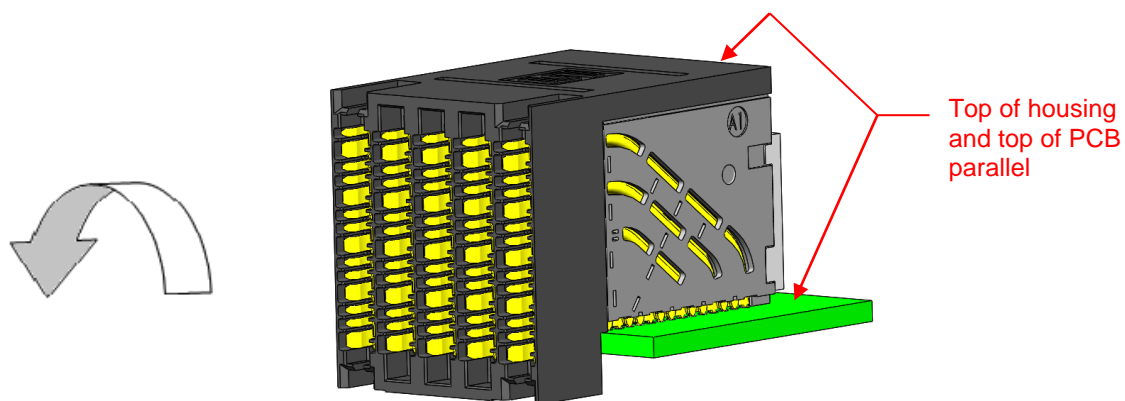

Figure 24: Connector Rotated Parallel to Top of PCB and EONs Aligned
- Once the end column EON tips have been inserted, rotate the connector towards the board to insert the rest of the EON tips into their corresponding vias. The top surface of the connector should be parallel with the top surface of PCB after all of the tips have been properly inserted. Refer to figure 24.